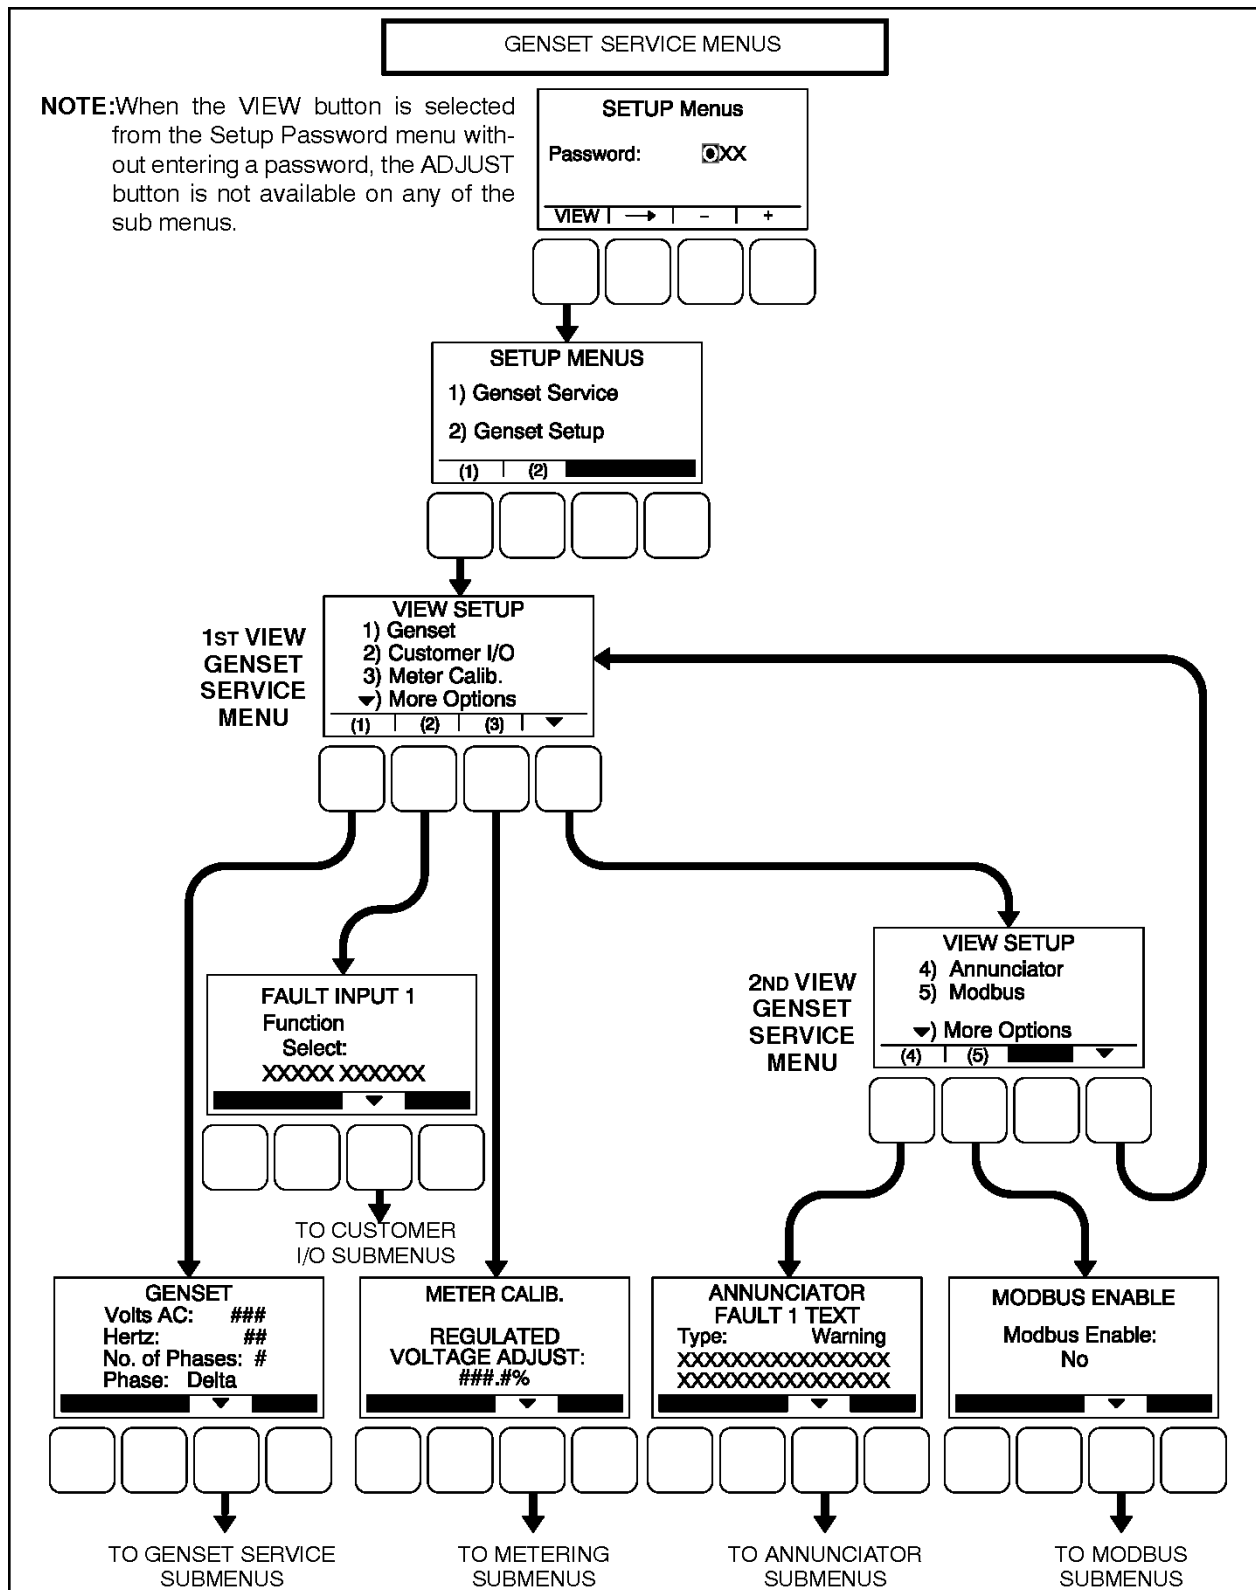

FIGURE 52. GENERATOR SET SERVICE MENU
Pressing the VIEW button in the Setup "Password" menu, will display the 1st generator set service menu (see Figure 52 on page 95). Note that when viewing the generator set service menus, the ADJUST button will not be displayed as shown in Figure 52 on page 95.
The generator set service menus are available by pressing the (1) button in the Setup menu (see Figure 52 on page 95).
Figure 52 on page 95 is a block representation of the two generator set service menus that are available from the Setup menu after the correct password has been entered. The Genset Service menus provide access to the following categories.
When the Password menu is displayed, the first numeric character (0) is highlighted (see Figure 52 on page 95).
The Genset Service submenus are available by pressing the (1) button on the first Genset Service menu (see Figure 52 on page 95).